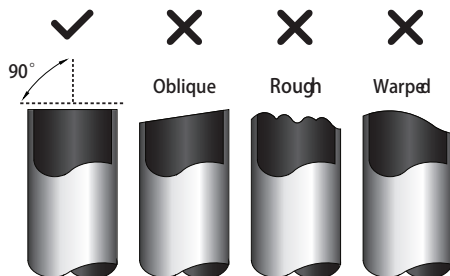

Fig. 8.3
1. Make sure that the pipe is cut at a perfect 90° angle. Refer to Fig. 8.3 for examples of bad cuts